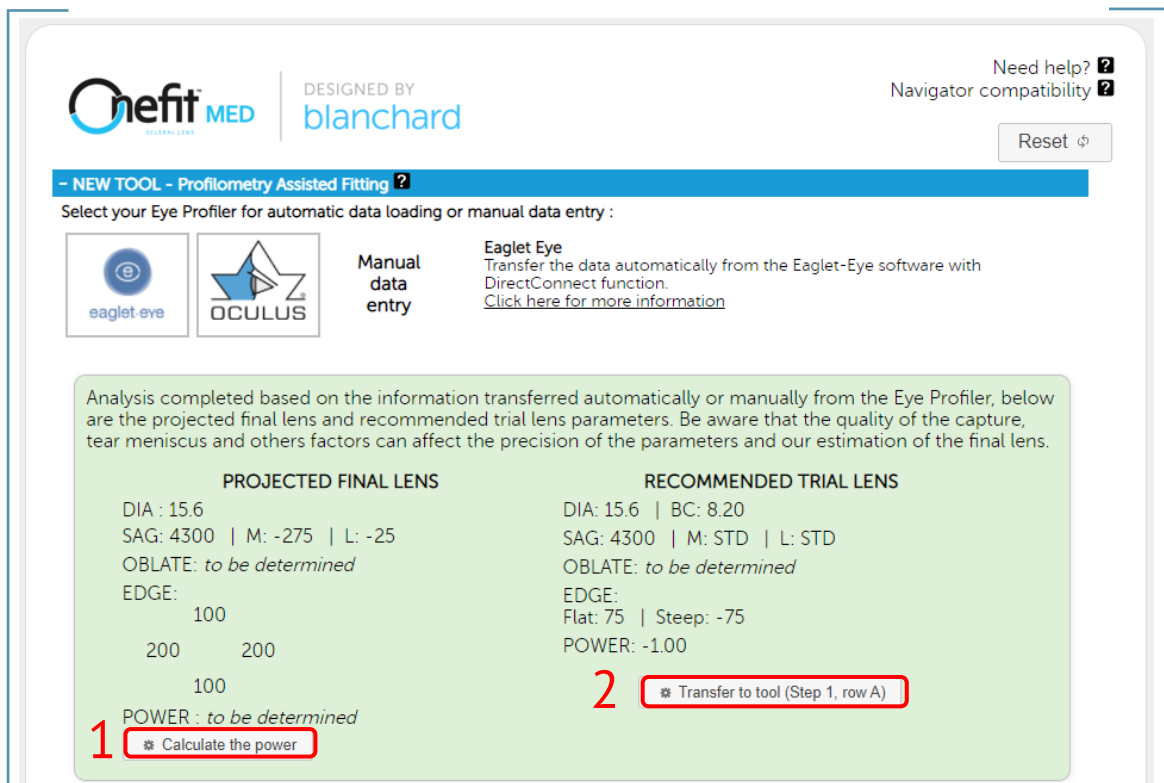

Figure 1
- 2) Click now on **Transfer to tool (Step 1, row A)** to continue (see Figure 1). If you are using a *Trial Lens* instead of calculating the *Power*, only the information about the recommended trial lens will be transferred into row A.